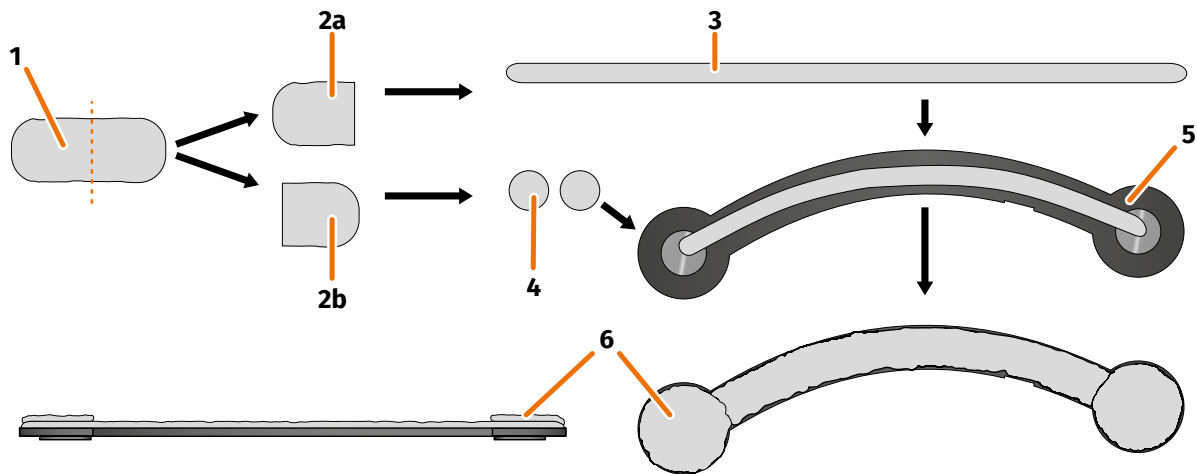

FIGURE 12: Applying Sugru to the narrow helmet adapter
1. Open a pack of Sugru and remove the content (FIGURE 12/1) from the package.
2. Divide the Sugru into two halves (FIGURE 12/2a and 2b).
3. Use one half of the Sugru (FIGURE 12/2a) to form a roll (FIGURE 12/3) that is approximately as long as the helmet adapter.
4. Split the other half of the Sugru (FIGURE 12/2b) into two equal parts and roll both of them into balls (FIGURE 12/4).
5. Place the roll (FIGURE 12/3) on the side of the helmet adapter on which you can see the magnets (FIGURE 12/5).
7. Place each of the two balls you have formed onto the round ends of the helmet adapter and carefully and evenly flatten them so that they blend with the layer of Sugru that has already been applied (FIGURE 12/6).